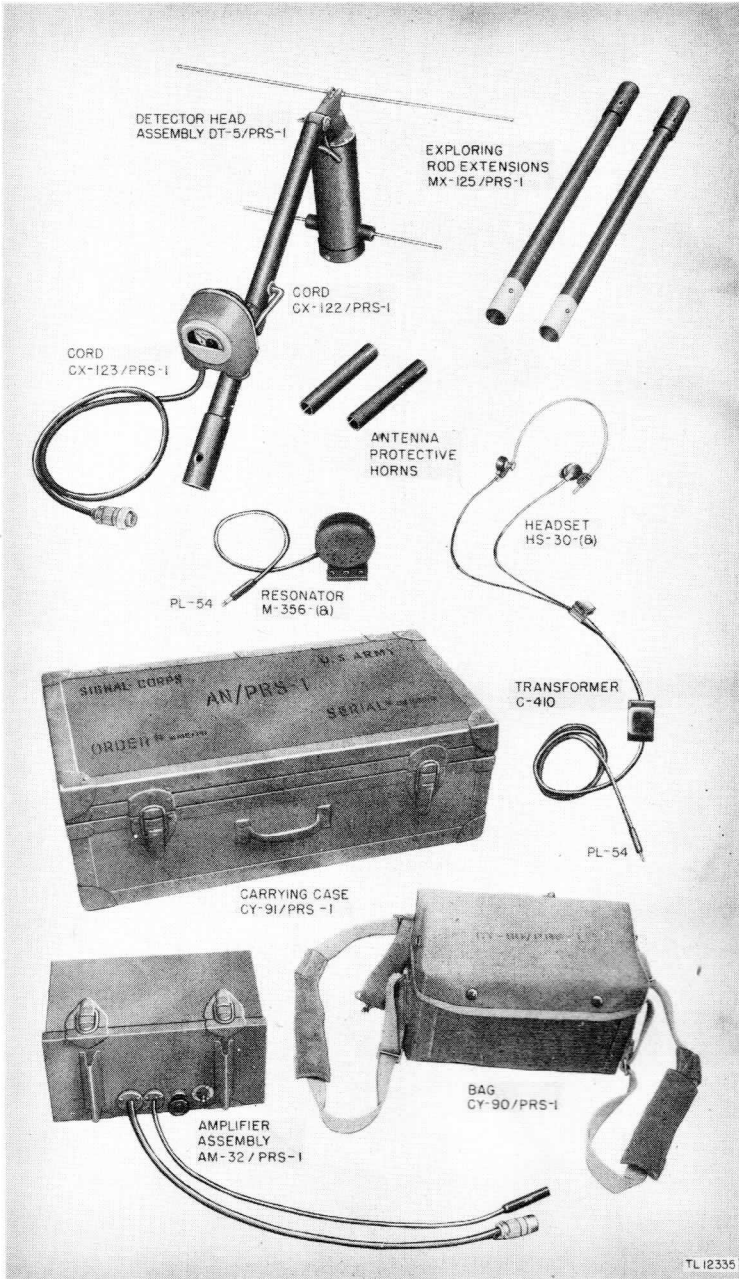

Figure 1. Detector Set AN/PRS-1, components.
*a. Purpose.* Detector Set AN/PRS-1 (fig. 1) is a portable device intended for the detection of both metallic and nonmetallic antitank mines.
*b. Application.* Buried objects, such as metallic and nonmetallic antitank mines, are indicated by both aural and visual means. A sharp increase or decrease in the volume of the 1,000-cycle tone in Headset HS-30 (E) or Resonator M-356 (E) is the best indication of the presence of a buried object such as an antitank mine. The symbol (E), where used in this technical manual, indicates all items of equipment regardless of model or procurement. The volume change is accompanied by a swinging to the left of the needle of a meter on the exploring rod as the volume of the tone increases, and by a swinging to the right as the volume of the tone decreases.
**4. DESCRIPTION OF MAIN COMPONENTS.** Detector Set AN/PRS-1 (fig. 1) consists of the following main components:
*d. Bag CY-90/PRS-1.* This bag (fig. 1) is designed to carry the amplifier assembly and is equipped with webbed shoulder straps and belt. A hole in the bottom of the bag gives access to the ON-OFF switch and volume control of the amplifier. The hook and buckle on the belt and shoulder straps provide a means of quickly discarding the equipment.